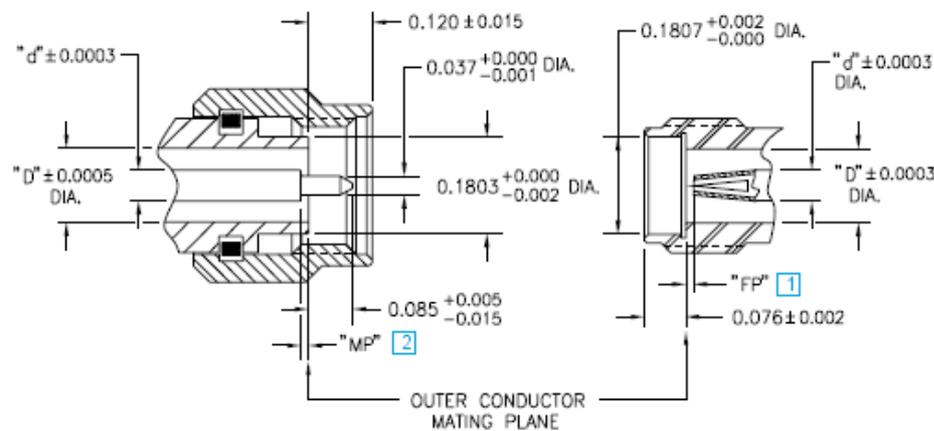

Figure 1 — Critical contact pin location dimensions of APC3.5 and MPC3 type precision connectors
The Maury A034B and A034C are designed to provide a fast and accurate means of checking the critical center conductor contact pin locations of 3.5mm (APC3.5) and 2.92mm (K) connectors relative to the outer conductor mating plane. The critical interface dimensions are shown in Figure 1.
The critical contact pin locations of 3.5mm and 2.92mm female and male precision connectors are shown in Figure 1. These dimensions must be maintained in order to provide proper electrical performance and mechanical mating of the connectors. The connectors are designed to achieve a co-planar mating of the center conductors and outer conductors at the outer mating plane. Destructive interference will result if the contacts protrude beyond the outer conductor mating planes. This interference may cause buckling of the female contact fingers or damage to associated equipment during mating. Alternately, an excessive gap of the